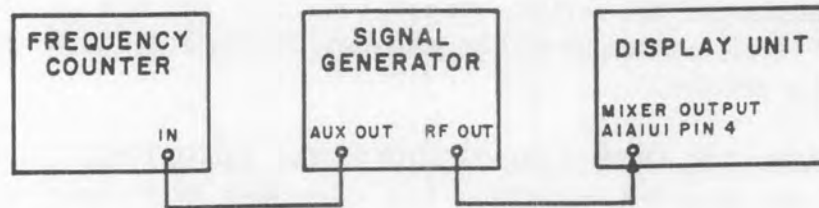

Figure 4-5. Test Setup, 12.7 MHz IF Amplifier Alignment
- (1) Connect the equipment as shown in Figure 4-5.
- (2) Set the signal monitor front panel controls as follows:
- (3) Remove the local oscillator input cable at A1J3.
- (4) Set the signal generator to 12.700 00 MHz, cw, at a level just sufficient to cause the base line on the crt to shift upward about half scale.